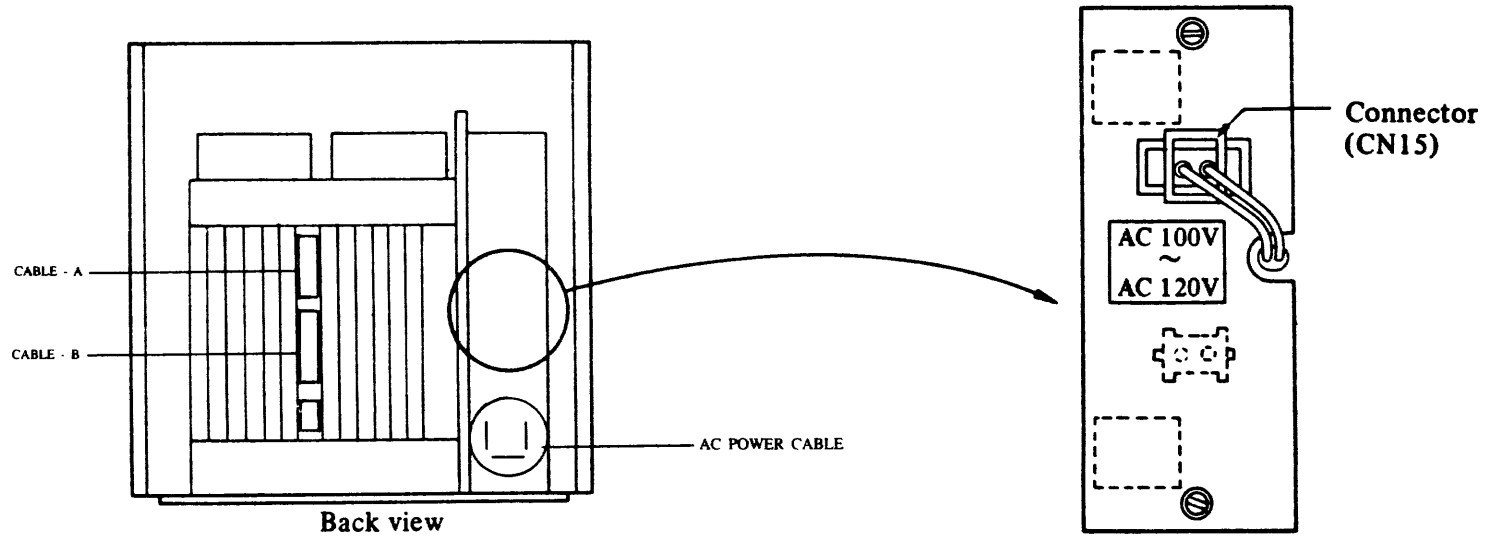

Fig 2.3.1
- 2.3.1 Confirm that the Interface cable A and B and AC power cable indicated in Figures 2.3.1